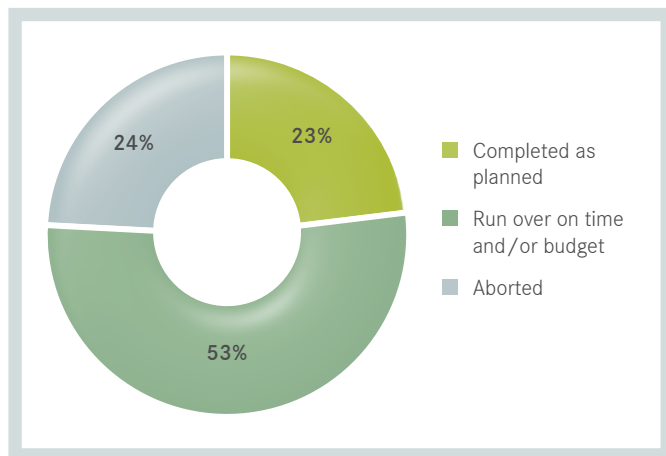

Figure 1: Project success rate (Gartner Technologies, 2011)
- Approximately 24% were aborted (see Figure 1).